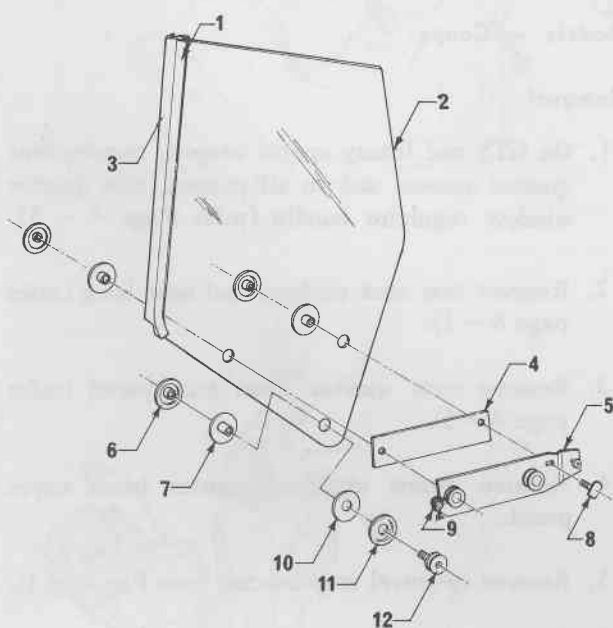

FIG. 4 - 2
5. Remove up-travel stop bracket (see Fig. 4 - 1).
7. Loosen bolt securing adjusting bracket to lower section of quarter window guide assembly (see Section A-A, Fig. 4 - 1).
Forward, rearward or in and out adjustment of the rear quarter window is provided by a slotted bracket attached to the lower section of the guide assembly and a slotted hole in the quarter inner panel (see Section A-A, Fig. 4 - 1).
Similar adjustment of the upper section of the guide assembly is provided by adjusting studs mounted in the guide assembly and secured through slotted holes in the quarter inner panel with lock nuts (see Fig. 4 - 1).